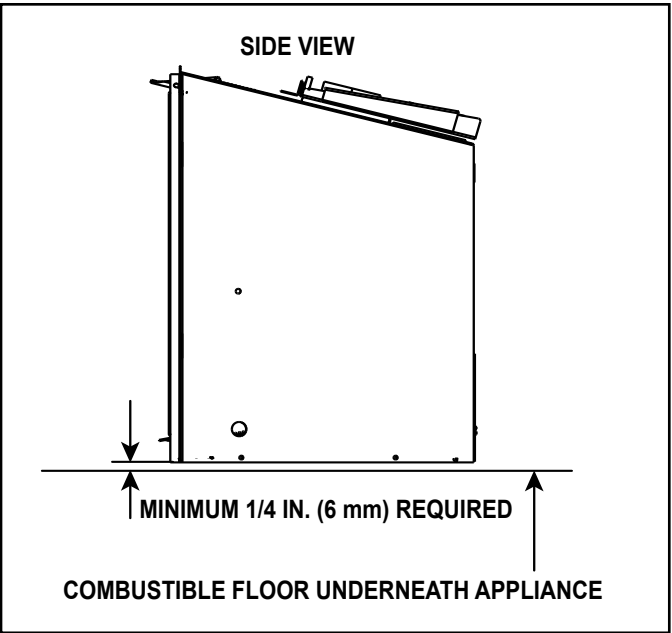

Figure 3.17 Solid Fuel Floor Clearance
- A minimum 1/4 inch (6 mm) gap from the bottom of the appliance to any floor surface is **REQUIRED**. See side view in Figure 3.17.
- Combustible flooring underneath the appliance is acceptable with a 1/4 inch gap. See Figure 3.17.